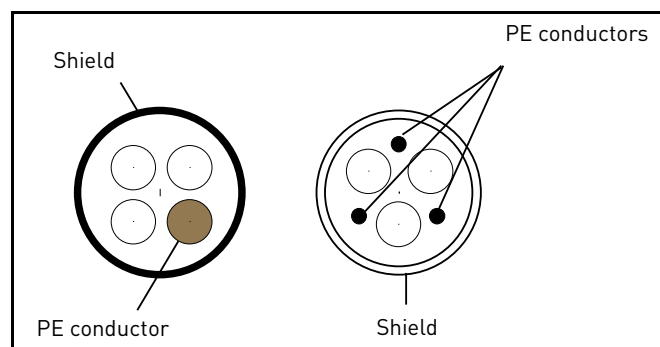

Figure 15.
- 2 = Symmetrical power cable equipped with concentric protection wire and intended for the specific mains voltage. (MCMK or similar recommended). See Figure 15.
- 3 = Symmetrical power cable equipped with compact low-impedance shield and intended for the specific mains voltage. [MCCMK, EMCCK or similar recommended; Recommended cable transfer impedance (1...30MHz) max. 100mohm/m]. See Figure 15.